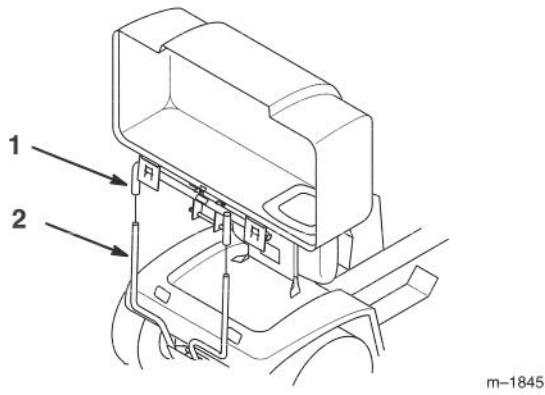

Figure 26
3. Carefully lift the bagger top and slide off the quick-attach bracket (Fig. 26). The bagger top is easier to remove if two people work together.